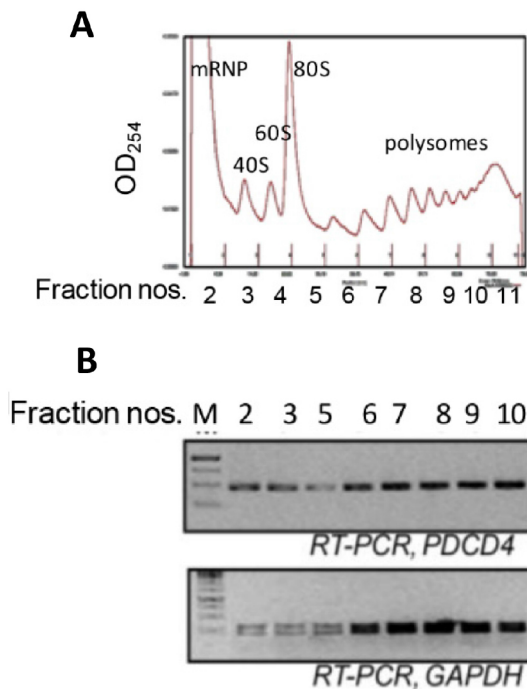

**Figure 1. 10%-50% sucrose gradient showing 2 mm space on top of gradient**
7. Overlay 25-50 OD equivalent of lysate gently on top of the gradient in the ultracentrifuge tube without disturbing the gradient. Leave around 2 mm of space in the gradient tube on top of the lysate layer (Figure 1).